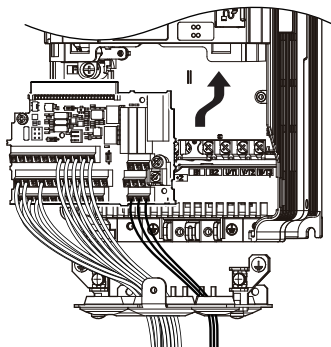

Figure 7.72 Install the Terminal Board
1. After wiring the main circuit, connect the terminal block to the drive as shown in Figure 7.72. Use the installation screw (M3: 0.49 - 0.73 N·m) to fasten the terminal block into place.